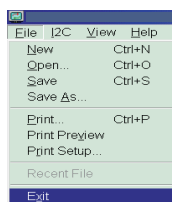

Fig. 26
- Pull down the File menu and select Exit as shown in Fig. 26.